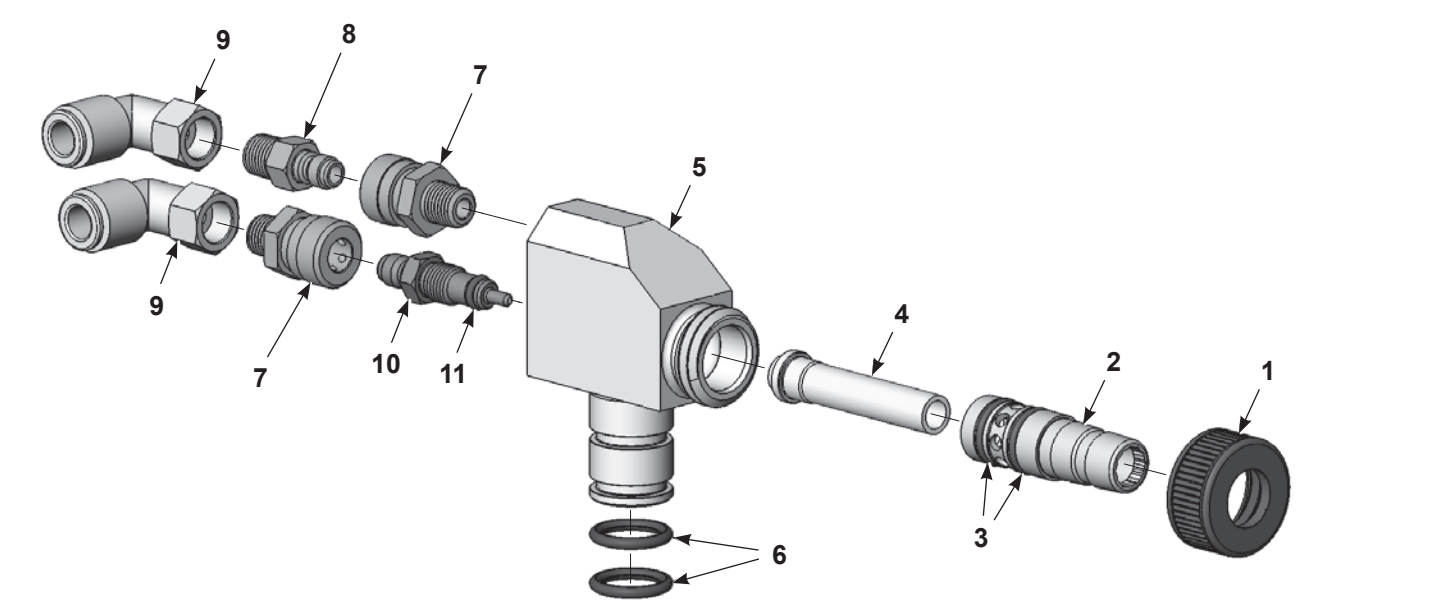
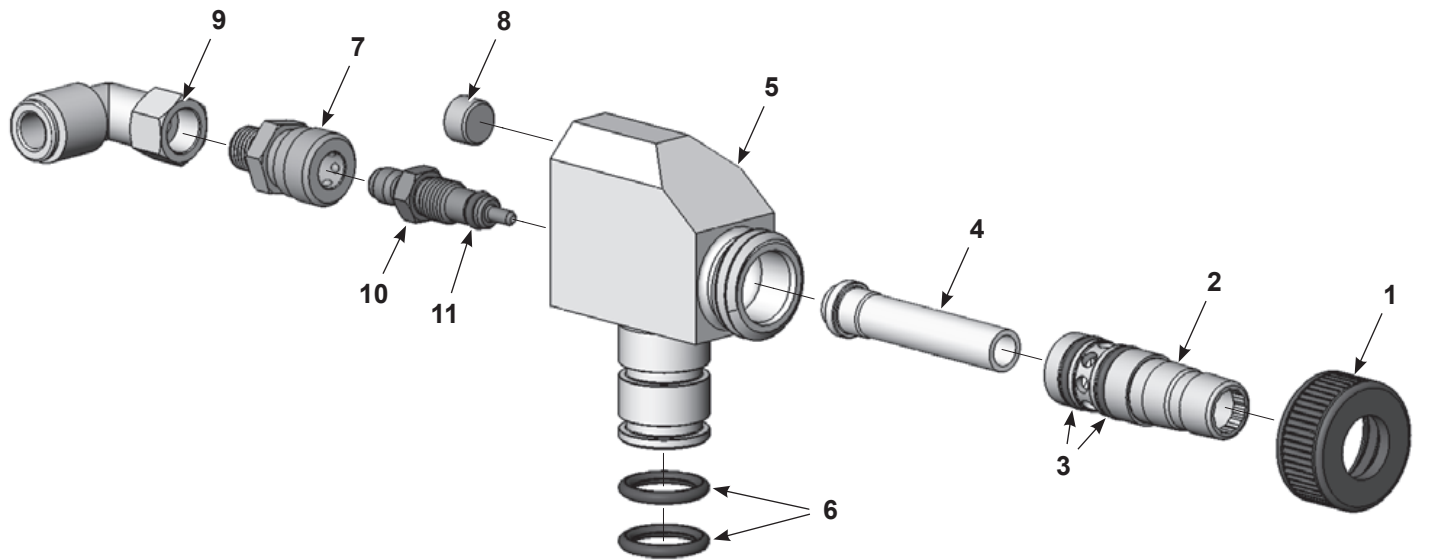

Figure 4 Corona Pump Parts
Figure 5 Tribo Pump Parts
2. See Figure 4. Disassemble the pump and remove the O-rings and air couplings. Blow off the pump parts.
See Figure 4.
See Figure 5.
See Figure 4, Figure 5, and the following table.